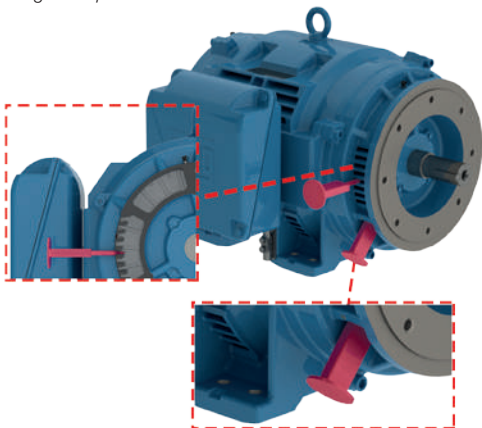

Figure 21 - IP degree of protection for the frame - first characteristic numeral - flanged.
- b) Second characteristic numeral 3: Machine protected against water falling as a spray at an angle up to 60 degrees from the vertical (Figure 21).